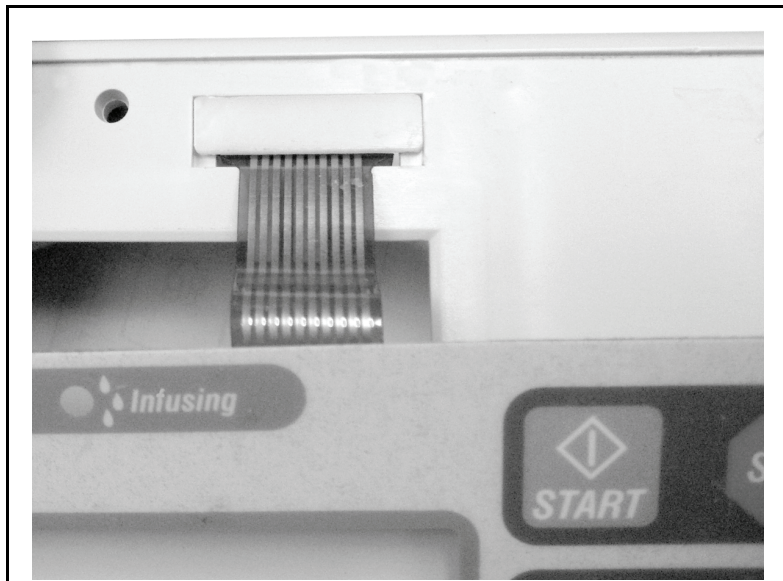

Figure 6-11. Front Case and Keypad Assembly
10. Refer to Figure 6-11. Place the Spacer into its position on the Front Case as shown, and hold in place for a minimum of 10 seconds. The upper edge of the Spacer must be against the upper edge of the opening as illustrated.